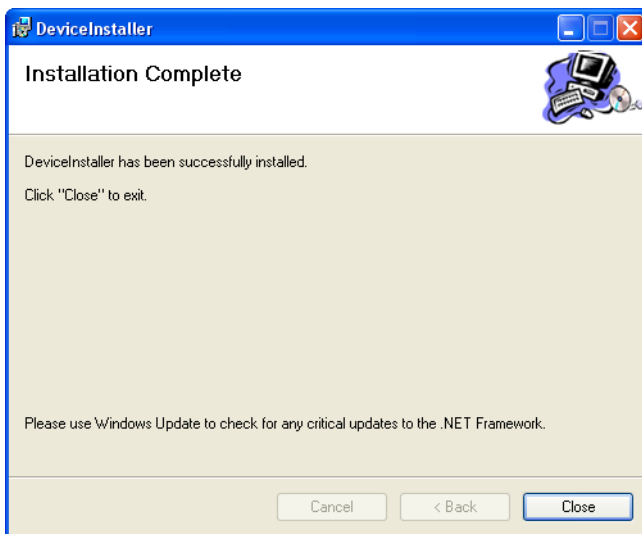

Figure 17: Installation Complete Window
10. An Installation Complete window will appear when the DeviceInstaller has been successfully installed (see Figure 17).